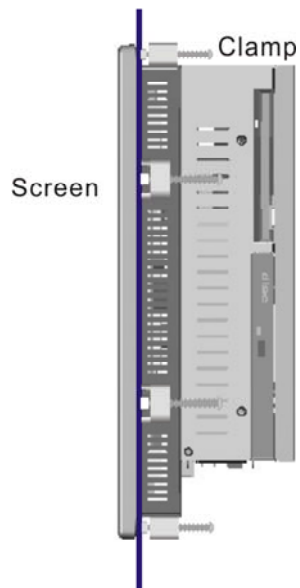

Figure 4-24: Secure the Rack/Cabinet Bracket
Step 3: Tighten the screws that pass through the rack mounting clamps until the plastic caps at the front of all the screws are firmly secured to the bracket (**Figure 4-24**).